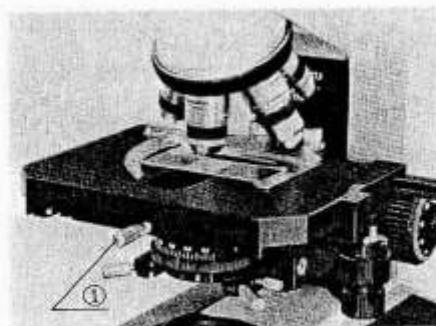

Fig. 10
- To rotate the stage loosen the stage clamping screw ① and holding this screw, rotate the stage into the desired direction. (Fig. 10)